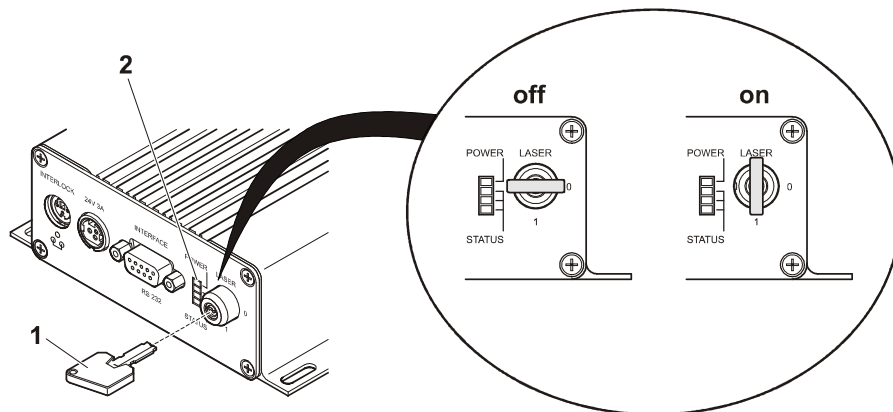
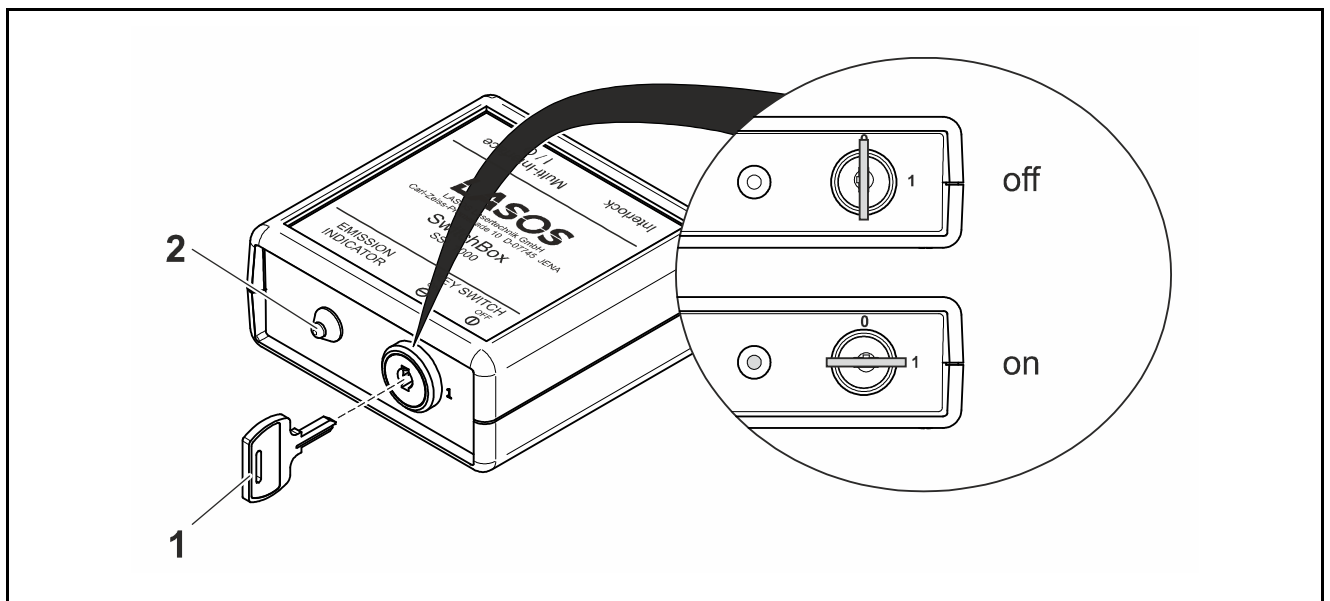
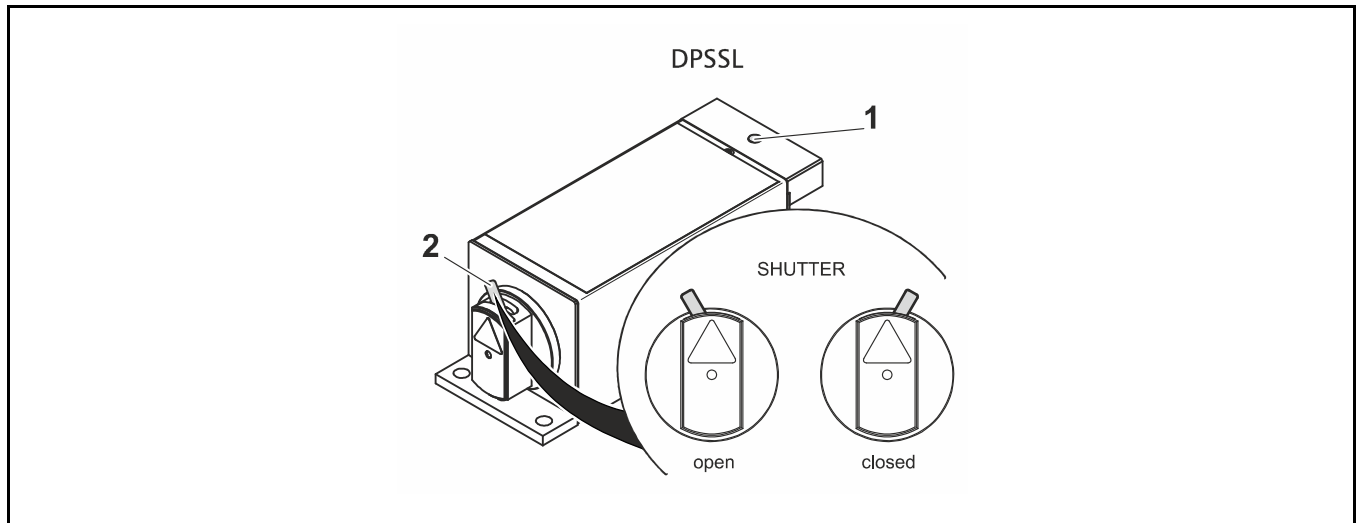

Fig. 19 Switching on the control unit
Fig. 20 Key switch
Fig. 21 Emission control and shutter
The laser is switched on (Fig. 19/**on**) and off (Fig. 19/**off**) by the key switch (Fig. 19/1).
The emission control lamp (Fig. 19/2) signalises the presence of dangerous laser radiation.
The laser system (laser module and control unit) is switched on by applying a supply voltage to the connected control unit. The red emission indicator lamp on control unit (Fig. 19/2) light up.
Before, an authorized person must insert the key (Fig. 19/1) in the key switch, if used.
- If provided, switch the key switch (Fig. 19/1) of the control unit in the **on** position.
After applying a supply voltage and switch-on of the control unit (if key switch is provided), instantly laser radiation can be emitted from the connected laser module. This condition is signaled by lighting of the red emission indicator lamps located at the top of laser module (Fig. 18/1) and at the front panels of control unit (Fig. 19/2).
The laser system is switched on by applying a supply voltage to the SwitchBox. The yellow emission indicator lamp on the SwitchBox (Fig. 20/2) lights up.
- If provided, switch the key switch (Fig. 20/1) of the control unit in the **on** position.
An authorized person must insert the key (Fig. 20/1) in the key switch, if used.
- Open the laser beam path by opening the shutter (if provided) on the laser module (Fig. 21/2). Do not open the beam path unless the working conditions are safe!
After applying a supply voltage and switch-on of the SwitchBox (if key switch is provided), instantly laser radiation can be emitted from the connected laser module. This condition is signaled by lighting of the red emission indicator lamp located at the top of the laser module (Fig. 18/1) and the yellow emission indicator lamp at the front panels of SwitchBox (Fig. 20/2).
- Close the laser beam path with the shutter (if provided) on the laser module (Fig. 21/closed).
- Turn the key of the key switch at the connected SwitchBox or the controller CKL 24xy z in **off** position respectively (Fig. 19/off, Fig. 20/off), if provided.
The laser module is switched off. The yellow emission indicator lamps on SwitchBox (Fig. 20/2) and the red emission indicator lamp on the laser module (Fig. 21/1) go out.
The key is removable in position "0". (Fig. 20/off)
The key (Fig. 20/1) has to be stored at a safe place.
If provided an authorized person shall remove the key (Fig. 19/1, Fig. 20/1) from the device and store it in a safe place for safety reasons.
- Before any transportation or storage of the device, close the shutter (if provided) at the laser exit aperture (Fig. 21/closed) to avoid contamination.